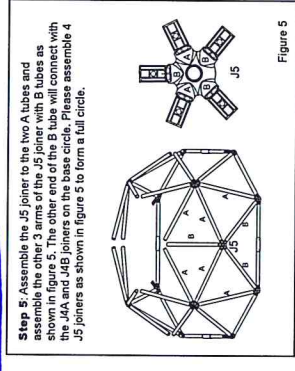

Figure 5
5. Take out the tool as shown in figure 5.
**Step 5:** Assemble the J5 joiner to the two A tubes and assemble the other 3 arms of the J5 joiner with B tubes as shown in figure 5. The tubes will connect with the J4A and J4B joiners on the base circle. Please assemble 4 J5 joiners as shown in figure 5 to form a full circle.